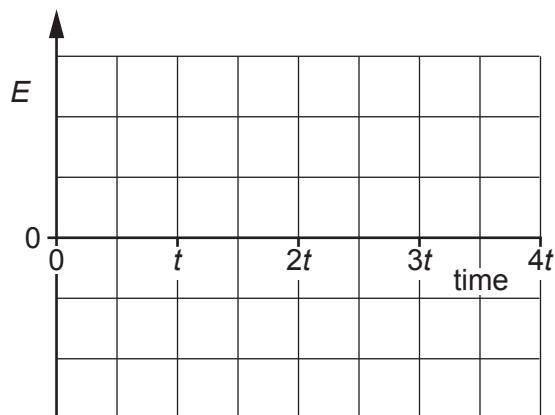

Fig. 6.4
- (iv) On Fig. 6.4, sketch a line to show the induced electromotive force (e.m.f.) E in coil C from time 0 to time $4t$.